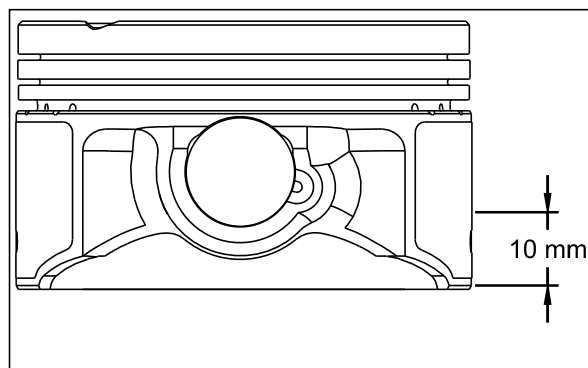

Fig. 3.94
- Measure the diameter at the right angle to the pin piston and at a point which is 10 mm from the bottom to check wear. If the diameter is lower than the service limit, replace the piston. (Fig. 3.94)